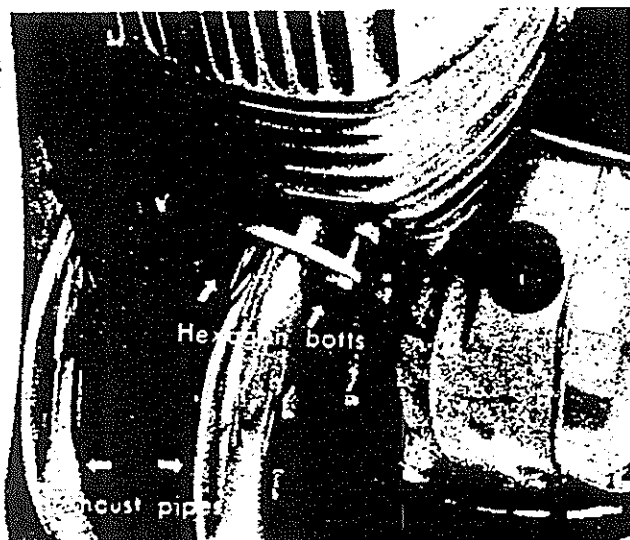

Fig. 37
- c) To decarbonize exhaust pipes, remove hexagon bolts and scrape off the carbon inside. (Fig. 37)